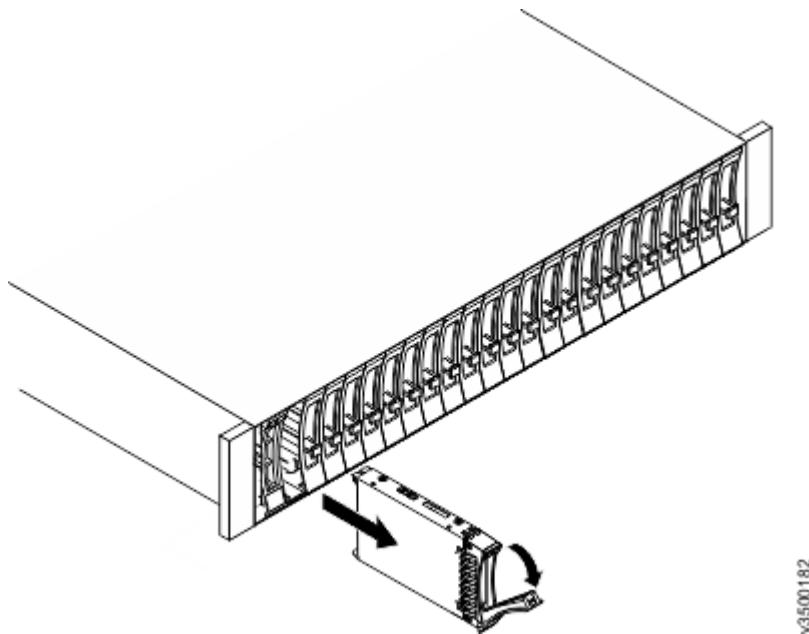
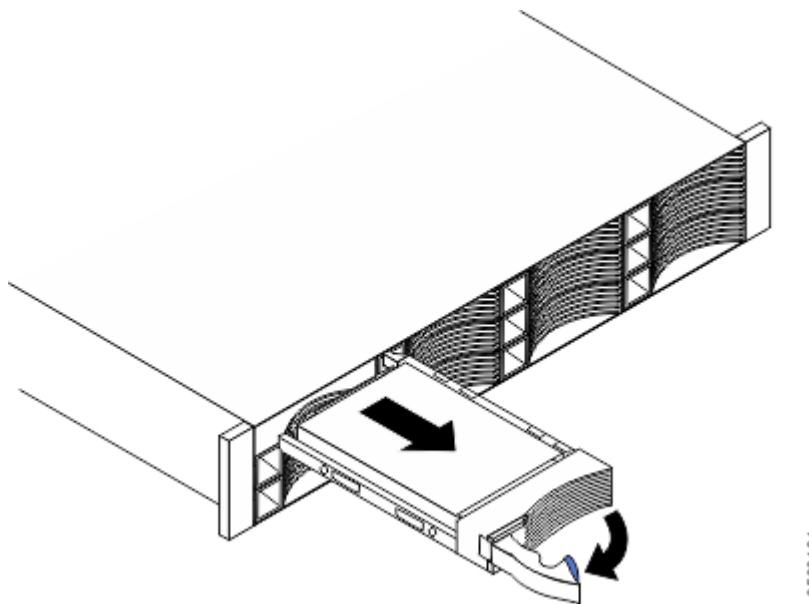

Figure 105. Removing a vertical style hard disk drive
Figure 106. Removing a horizontal style hard disk drive
6. Carefully remove each hard disk drive and label it with the drive slot from which it was removed (so that the drives can be inserted back into the same slots). Refer to Figure 105 on page 163 or Figure 106 on page 163.